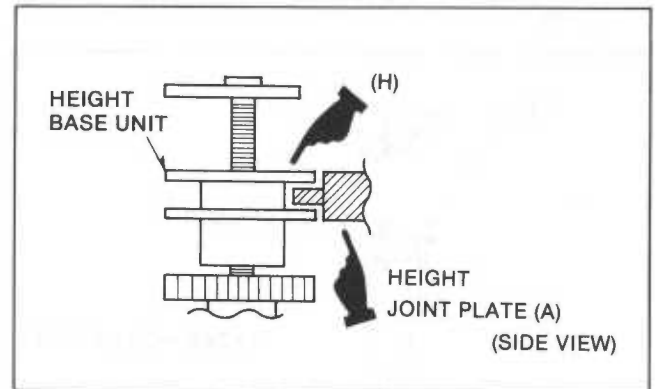

Fig. R21
- Lift the Optical Pick Up a little and then install the Height Base Unit so that pin (A) of Height Joint Plate fits the (H) position of Height Base Unit as shown in Fig. R21. Then install the Height Spring (A) and (B).